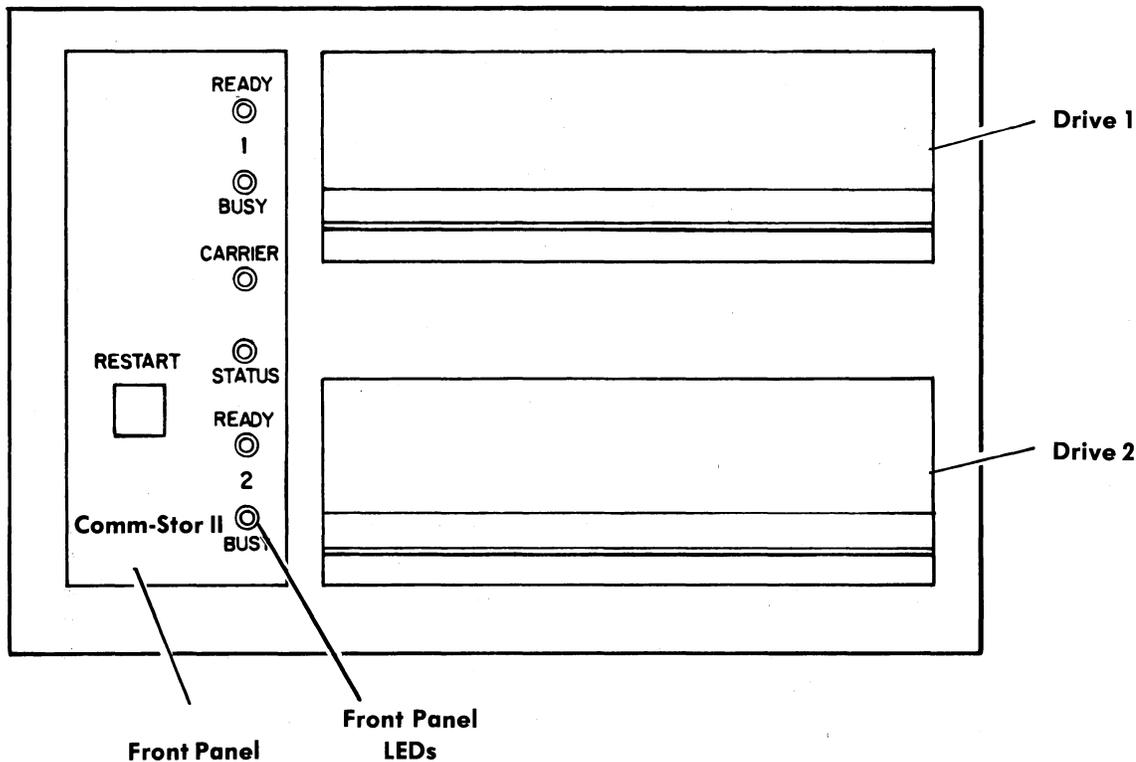

Fig. 1—Front View of the Comm-Stor II Line Control Unit
**1.04** The LCU consists of a microprocessor and two diskette drive units (Figure 1), each operating only with flexible (floppy), single sided, standard density, soft sector diskettes, each able to store 256,000 characters. In a network, the LCU is connected to a Console Terminal, a Network Control Station, a number of message stations, and the necessary modems and communications links.
**2.02** The Front Panel of the LCU (Figure 1) contains six Light Emitting Diodes (LEDs) which indicate various conditions. The READY and BUSY LEDs are duplicated for each drive unit. The function of each indicator (Figure 1) is as follows: